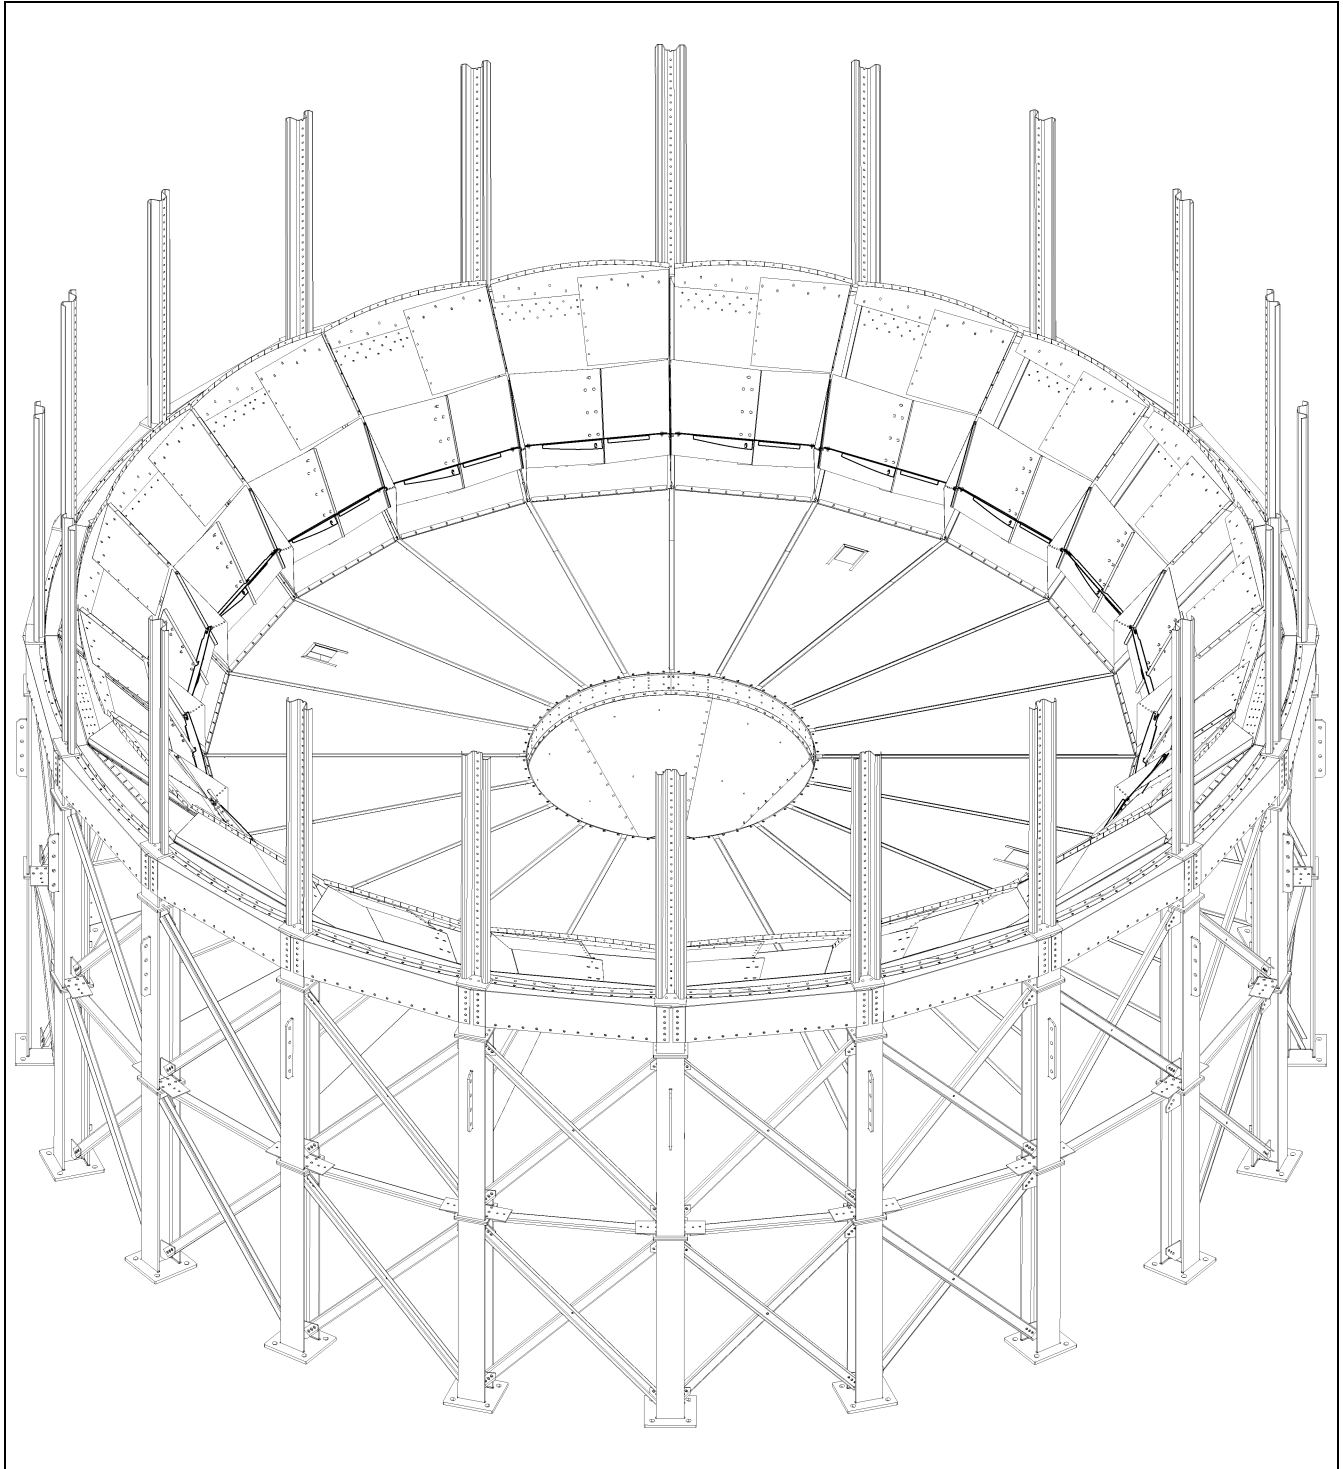

Figure 4 Hopper Base Assembly
6. The 12K grain brake brace kit is installed on the hopper base assembly as shown in *Figure 4*.